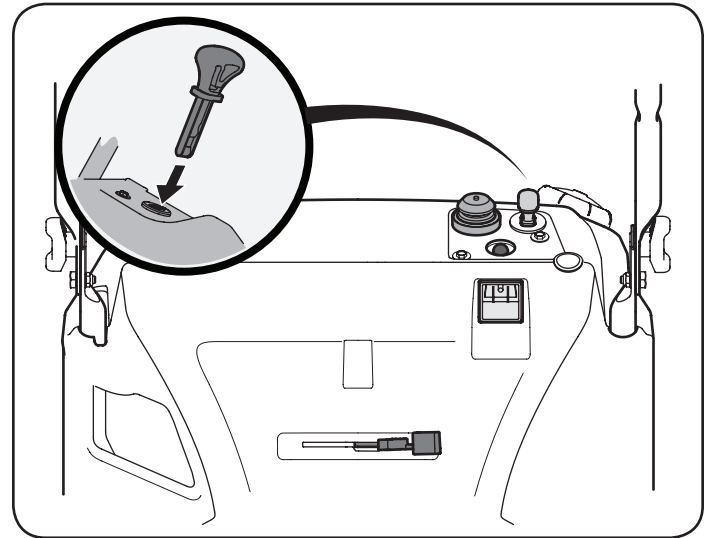

Figure 14
2. Insert ignition key into slot. Make sure it snaps into place. Do not attempt to turn the key. See Figure 14.